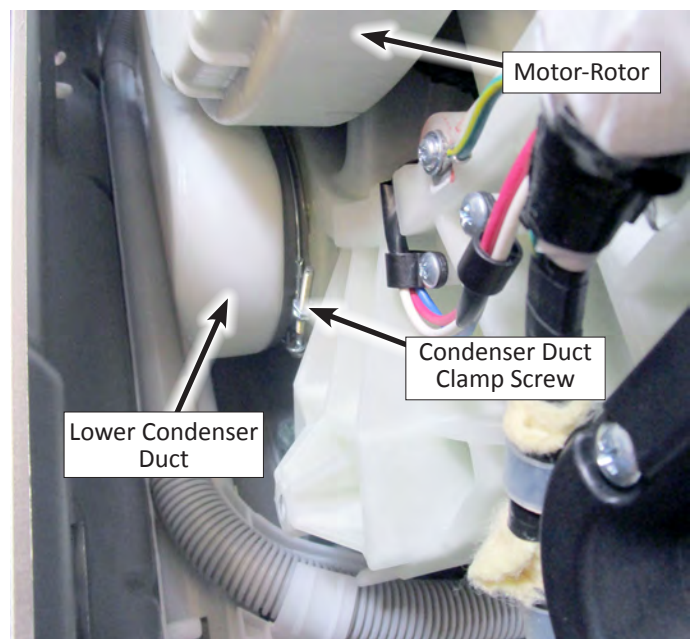

Figure 3
10. Locate the clamp screw at the bottom of the condenser duct. Loosen the clamp screw and separate the lower condensate duct from the drum (see Figure 3).